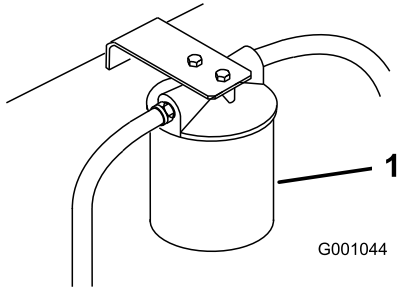

Figure 69
3. Place drain pan under filter, remove the old filter and wipe the filter adapter gasket surface clean (Figure 69).